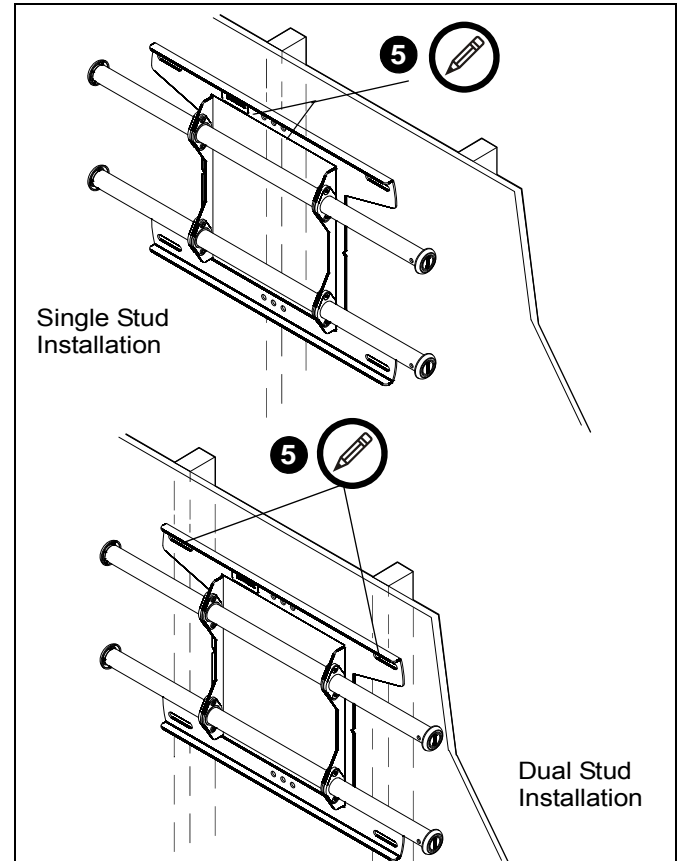

Figure 2
5. Using a level, mark the wall on each stud to attach the mount through the upper mounting slots. (See Figure 2)
**NOTE:** The MSA and MTA may be attached through the mounting slots on dual studs, or through the center mounting holes on a single stud. (See Figure 2)